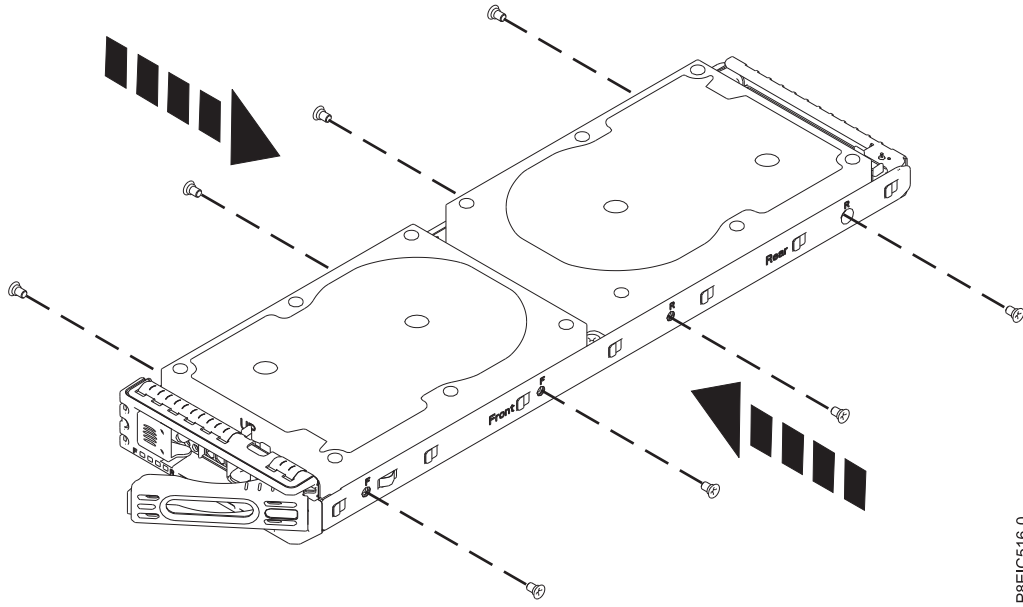

Figure 13. Fastening the 3.5 inch drive to the tray
- b. Fasten the drive to the sides of the tray by using four screws (2 on each side), as shown in Figure 13 on page 14.